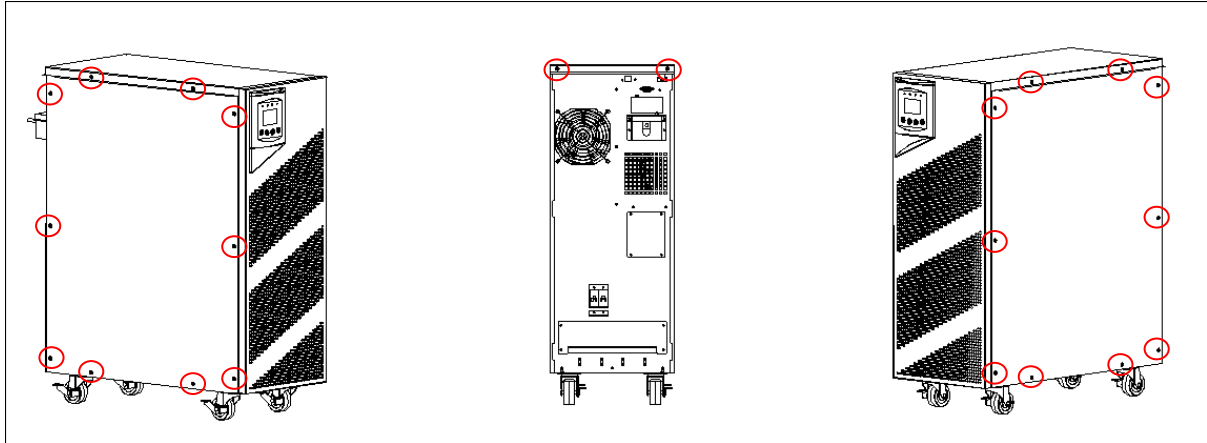

Fig. 3.1
STEP 1: Remove all the screws, including those on the opposite side of the case, refer to Figure 3.1